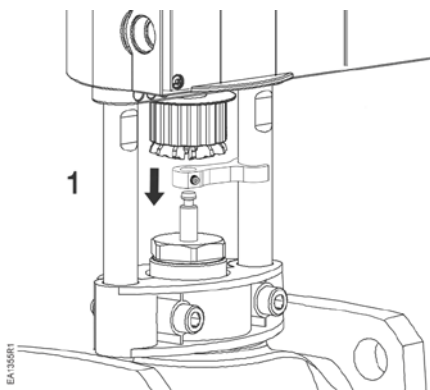

Figure 7.
4. Slide the anti-rotation device over the valve stem to a position approximately mid-way between the flats on the valve stem and the stem connection feature. See Figure 7.